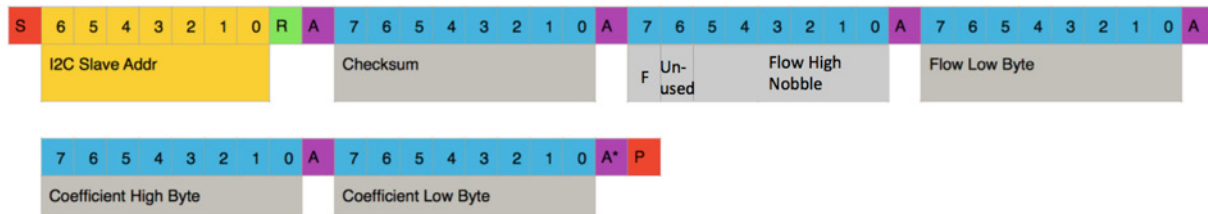

Figure 2: I²C Read flow sensor data
Reading flow sensor data is initiated by sending the I²C address followed by a READ bit. The slave will then transmit five bytes, as per Figure 2. The checksum is to ensure data integrity and is described in a following section. Bit F is the red flag. When the flag is cleared (0), the current data is being read for the first time from the I²C bus. The bit is set (1) after completing the first read operation. Subsequent reads before the output buffer is updated will include the F bit set. The bit will be cleared on the next update of the I²C output buffer. Updates occur at a 1-ms rate asynchronous to I²C events. A NACK from the master that occurs before the Coefficient Low Byte will result in a reset of the I²C logic and the device will stay idle (SDA released, pulled HIGH) until the next start bit. The value of the (N)ACK (identified by *) after the Coefficient Low Byte is considered a “Don’t Care” value from the device.